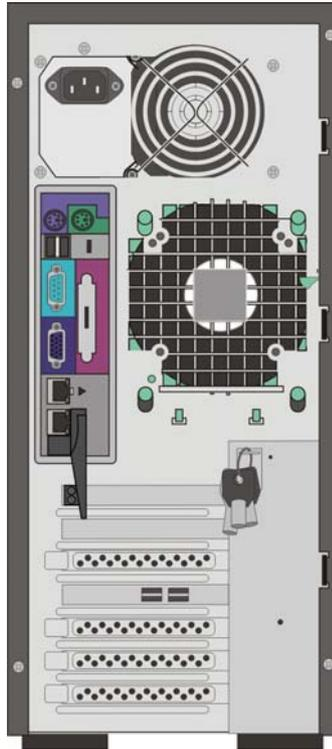

Figure 43: Removing the power supply unit
- Remove the four screws that secure the power supply to the server from the rear of the server, using one hand to hold the power supply inside the server. See Figure 43 on page 122.